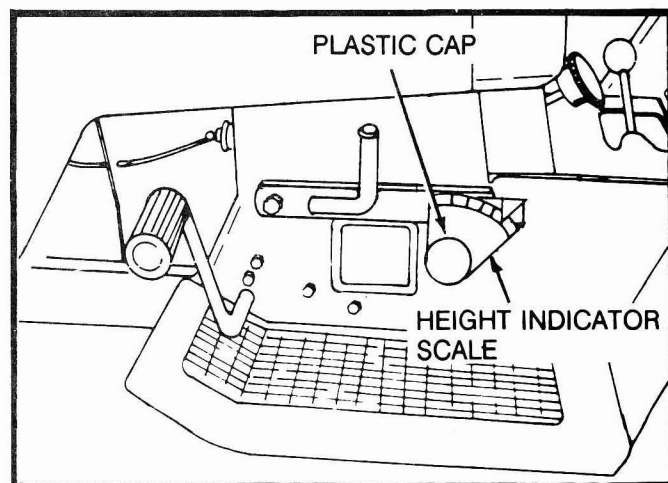

FIG. 7
- Remove the plastic cap from height indicator scale. (See Fig 7)